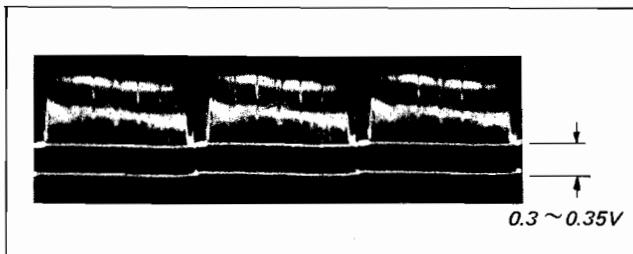

Fig. 9-1.
2. Adjust R53 on the PA-1 Board so that the sync level shown in Fig. 9-1 is  $0.3 \sim 0.35$  V.